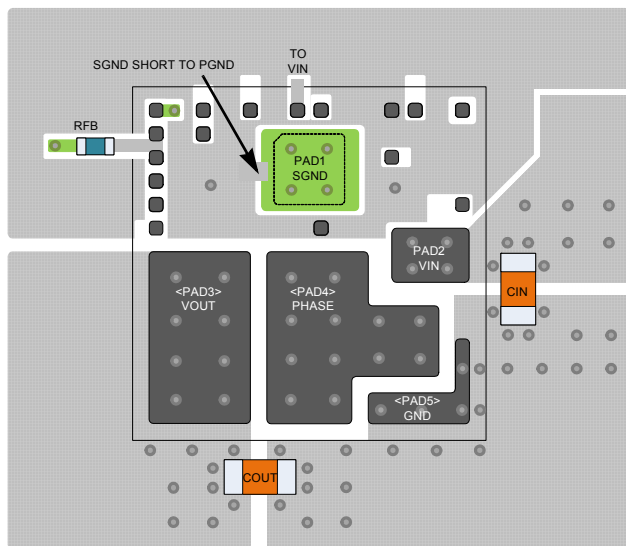

FIGURE 43. RECOMMENDED LAYOUT
- Establish a separate ground plane for SGND (pin A1 and PAD 1) and PGND (pin F8, A11, and PAD 5) and connect them at a single point as shown in Figure 43. This will help block the high frequency noise from entering the controller via SGND.
- Place at least one high frequency ceramic capacitor between (1) VIN and PGND, (2) VOUT and PGND, and (3) PVCC and GND, as closely to the module as possible in order to minimize high-frequency noise.